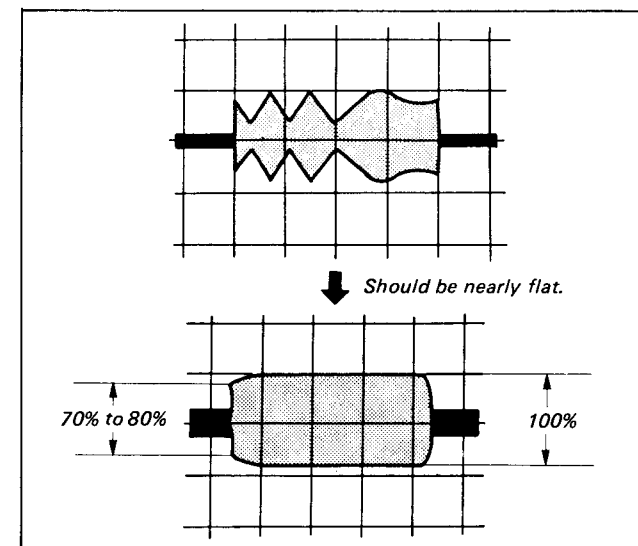

Fig. 1-76
3) Slowly rotate No. 2 guide clockwise to make the inlet side waveform nearly flat. (See Fig. 1-76.)